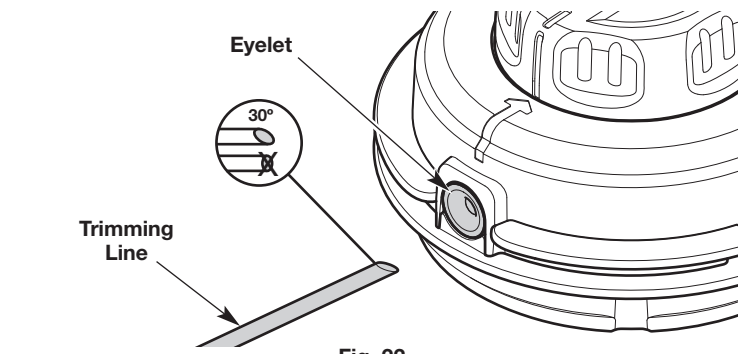
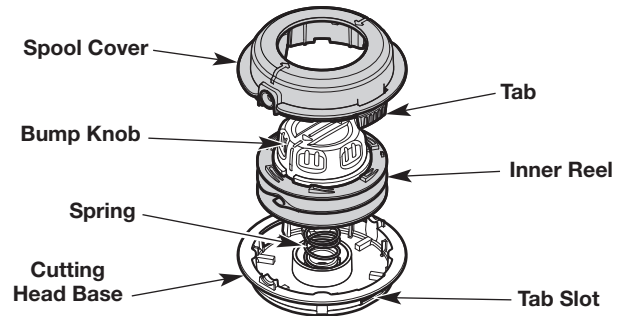

Fig. 22
Fig. 25
- Cut two 10-foot (3.0 m) lengths of new trimming line. Cut one end of each line at a 30 degree angle (Fig. 22).
- Insert one of the lines into an eyelet on the cutting head (Fig. 22). Use the angled end and push the line in about 3 inches (7.5 cm). Repeat this process with the other line and remaining eyelet.
- c. While holding the screwdriver in place, gently twist the screwdriver to unlock the tab from the tab slot (Fig. 25).
- d. Remove the spool cover (Fig. 25). **DO NOT** remove the spring from the cutting head base (Fig. 25).
- e. Push the bump knob through the spool cover. (Fig. 25). If the eyelets come off, reinsert the eyelets on the spool cover (Fig. 22).
- NOTE: DO NOT** separate the bump knob from the inner reel (Fig. 25).
- g. Use a clean cloth to clean the inner reel, cutting head base and spool cover (Fig. 25).
- h. Insert the bump knob and inner reel into the spool cover (Fig. 25).
- i. Align the tabs on the spool cover with the tab slots on the cutting head base (Fig. 25). Push the spool cover onto the cutting head base until the tabs securely snap into place.